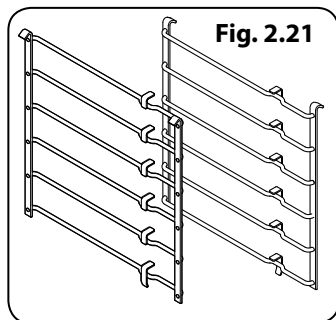

Fig. 2.21
- 2 sets of side supports (Fig. 2.21)